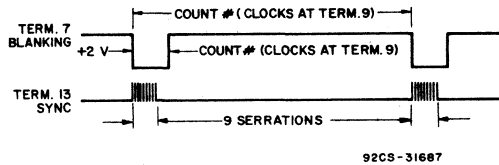

Fig. 7 - Blanking synchronous divider ratio and blanking pulse width (applies to test referenced to Note 21).
- Number of clocks occurring during the blanking gate period (see Fig. 7).